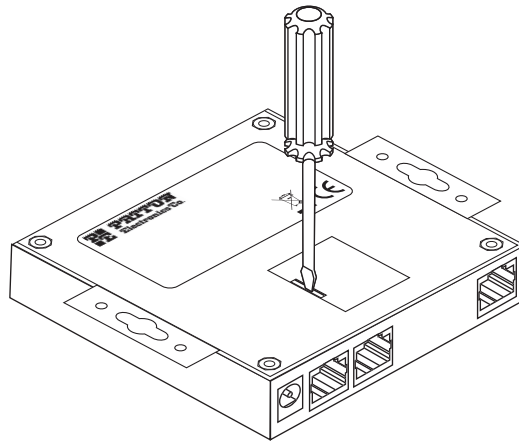

Figure 6. Removing protective cover
1. Using a small flat-tip screwdriver, remove the protective cover located on the underside of the CL1212E (see figure 6).